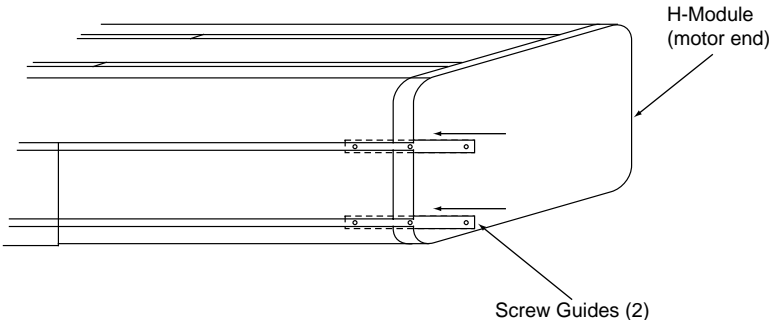

Figure 6-2. Screw Guides
- 1. Slide the screw guides into the two grooves on the back of the H-Modules as shown in Figure 6-2 (motor end).